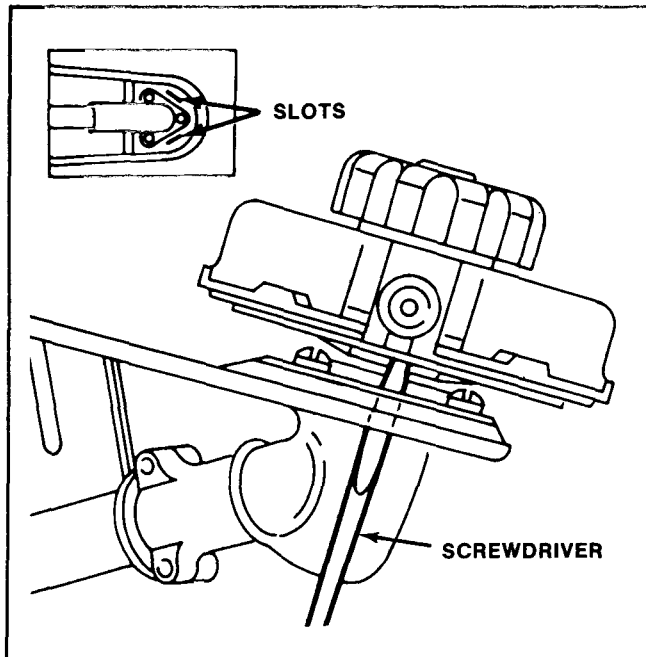

Figure 131
1. Remove the cutter implement by inserting a flat bladed screwdriver into the hole in the top of the shield, then rotating the cutter implement clockwise (as viewed from the bottom of the trimmer). See Figure 131.